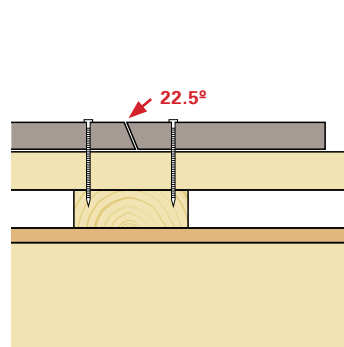

Fig. 19
- To prevent water from entering the wall behind the siding always cut boards and mouldings at a 22.5 or 45 degree angle. *(See Figure 19)*